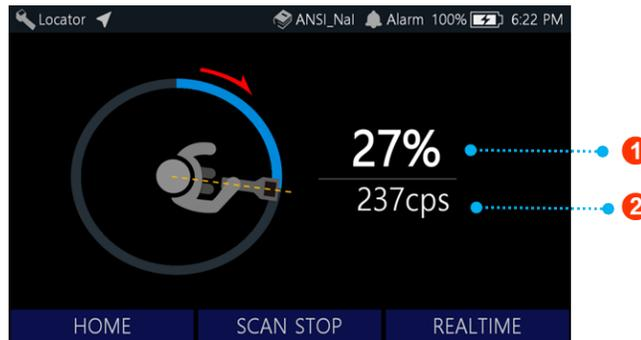

Figure 5.8.2. Scan Progress Status and Count Rate
The progress status ① and count rate ② at the given direction will be displayed as shown in figure 5.8.2. To cancel the scan, select SCAN STOP.